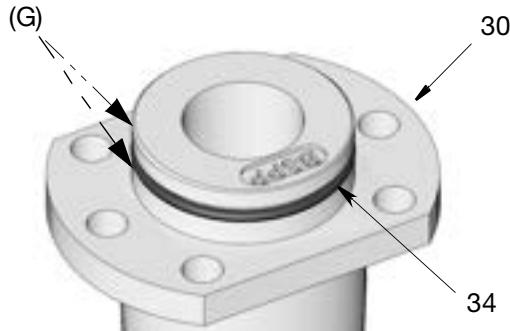

FIG. 11
14. Verify the outlet o-ring (34) is in place on outlet (30). Apply a thin layer of grease (G) to o-ring as shown in Fig. 11.